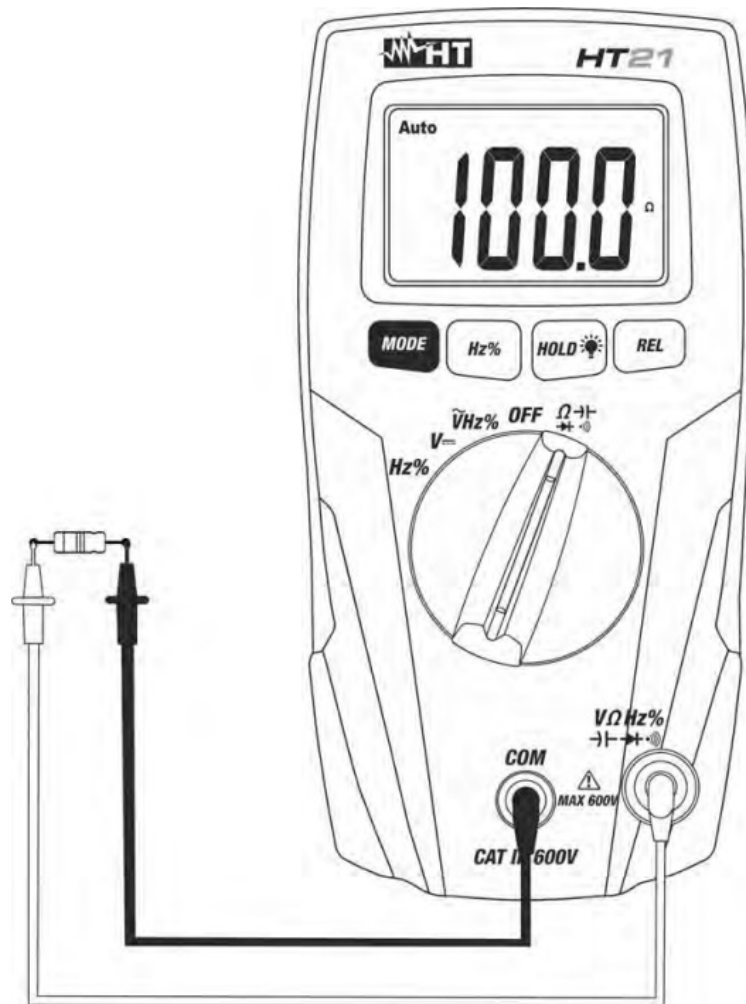

Fig. 4: Using the instrument for Resistance and Continuity test measurements
3. Connect the test leads to the circuit under test (see Fig. 4). The resistance value is displayed